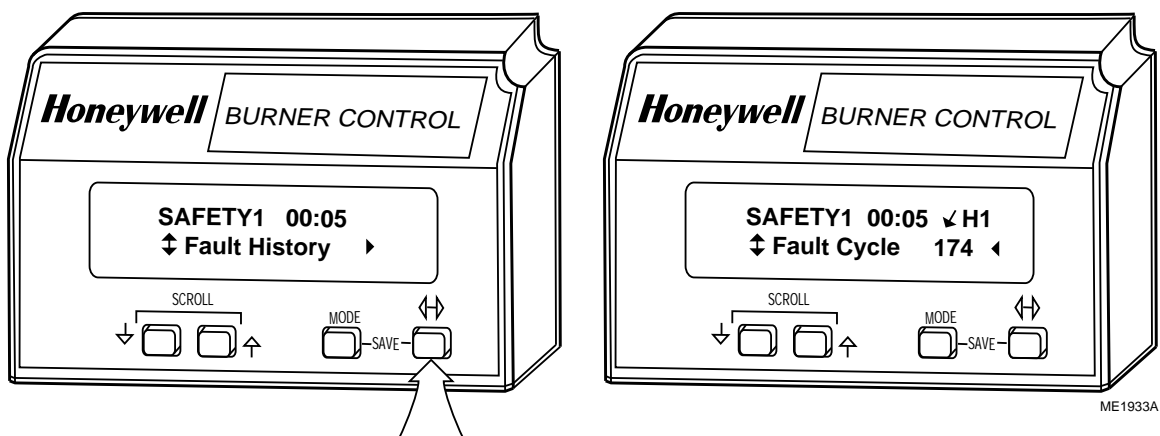

Fig. 19. (↔) Change-Level pushbutton function.
- 2 Change-Level pushbutton (↔), see Fig. 19.